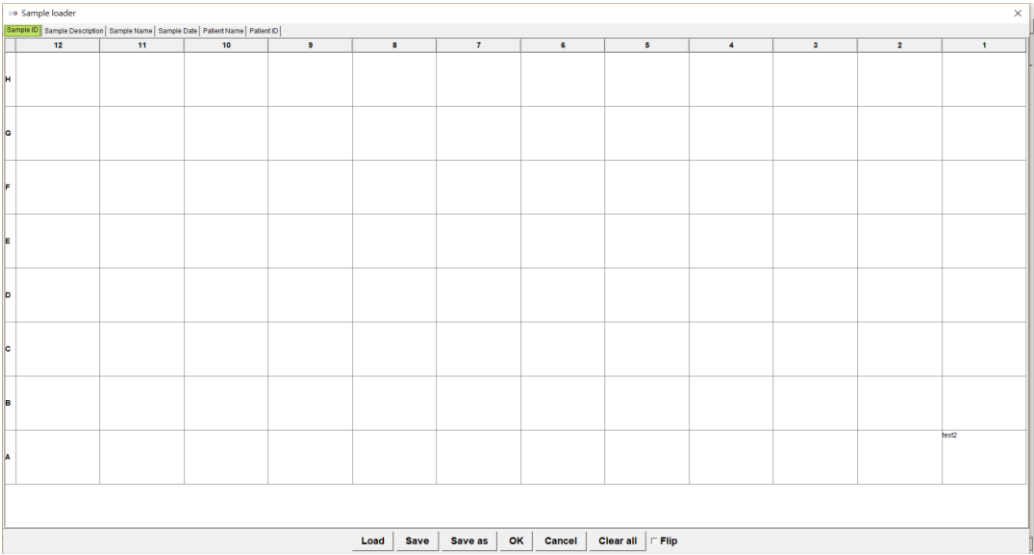

Figure 3-13 Sample loader window
Notes for samples can be edited in the Sample Loader window (Figure 3-13). **Clear All** button in the window is used to delete all the sample information and **Save** button is used to save the sample information after editing. After entering the information such as time and serial number, click **OK** to start the process.
The **Load** function is used to enter multiple sample description. After clicking **Edit** button, the Sample loader window will appear on the screen (Figure 3-13). The information in the excel file (Figure 3-14) can be loaded into the window and saved after clicking **OK**.
***Note:** The information of the samples in the excel sheet needs to follow the sequence that shows in Figure 3-13. You can find an example file in the installation directory C:\Program Files (x86)\BiOptic\Q-Analyzer\ExcelSampleExample.xlsx